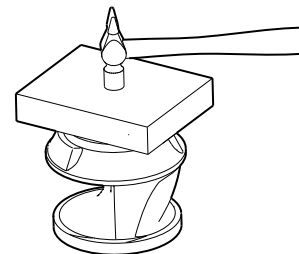

Fig. 23 Fitting the wear ring
- Place the wear ring (49c) on the impeller (49).
- Knock the wear ring home using a bench hammer ( ) and a wooden block large enough for covering the wear ring. See fig. 23.